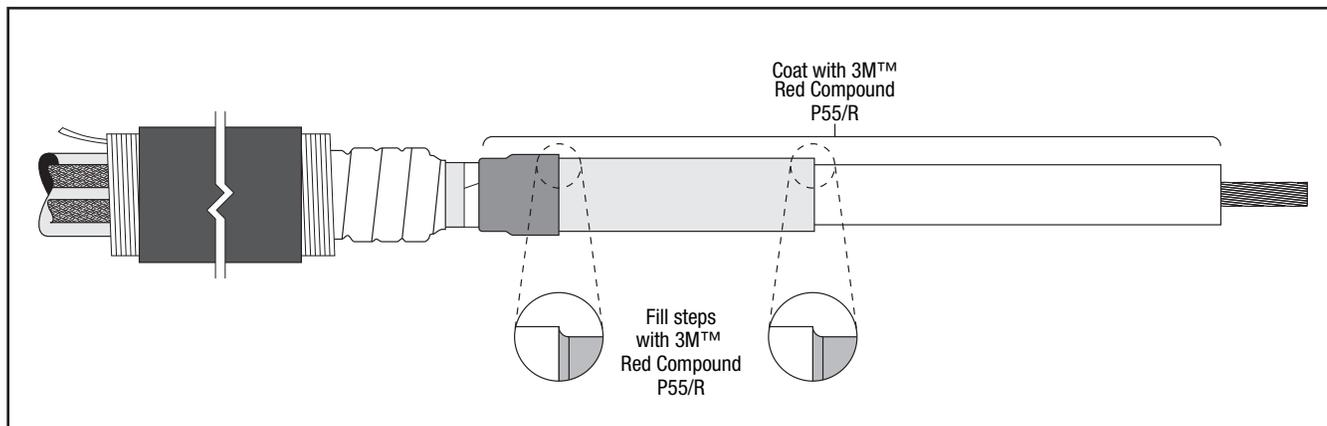

Figure 14
- 4.5 Apply 2 tubes 3M™ Red Compound P55/R to the exposed insulation and stress control adapter. Fill the top edges of the stress control tube with the P55/R. (Figure 14)